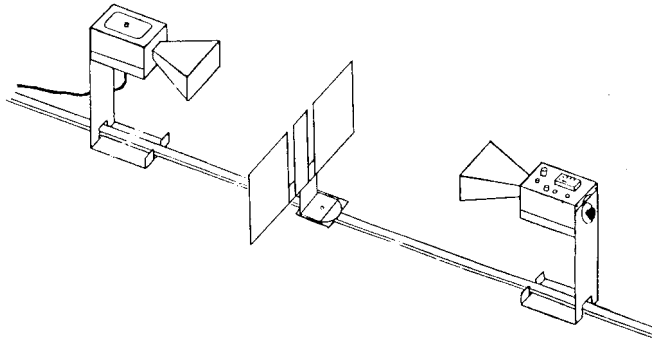

Figure 10: Equipment Setup
1. Arrange the equipment as shown in figure 10. Use the Slit Extender Arm, two Reflectors, and the Narrow Slit Spacer to construct the double slit. (We recommended a slit width of about 1.5 cm.) Be precise with the alignment of the slit and make the setup as symmetrical as possible.